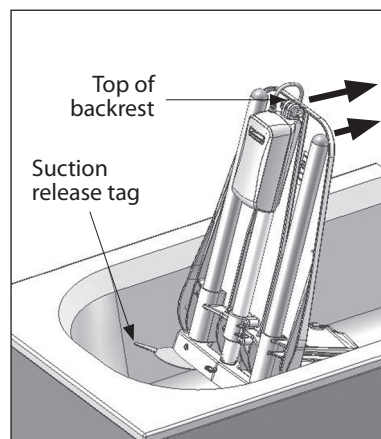

Figure 4
- While holding the top of the backrest, pull the suction release tags on the rear suction feet then tilt the bath lift forward (**fig 4**);
- iv) Unfold the two side flaps so they rest against the sides of the bath/tub. (Side flaps ease transfer on and off the bath lift and also prevent finger entrapment.) If side flap protectors are required and have been fitted to integral bath/tub handles, ensure the two side flaps are resting substantially on them. If the side flaps are still likely to catch under handles, move the side flap protectors as far as possible along the handles until the side flaps are over them (**see fig 4**). If this still does not improve the flaps' position on the side flap protectors, move the bath lift slightly forward in the bath/tub. Alternatively, a side flap protector extension kit is available (see section 15, "Accessories").